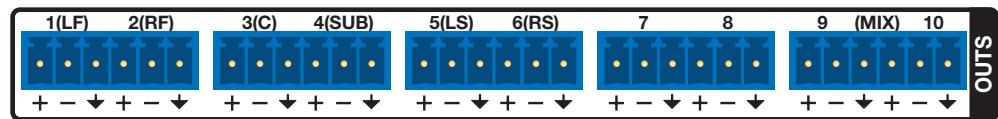

Figure 8. Analog Audio Outputs
- H Analog outputs** (see figure 8) — Outputs are balanced or unbalanced line level analog signals that feed into multichannel amplifiers for configurations up to 7.1.2 or 5.1.4 surround sound. For more information, see Speaker Placement on page 18.